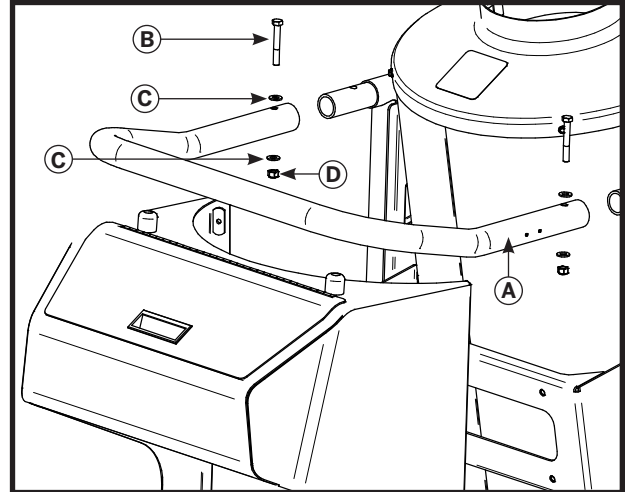

Figure 1
1. Install the handle (A on figure 1) with 5/16" NC x 2 1/4" bolts, 5/16" washers and 5/16" nylon locknuts (B, C and D on figure 1).